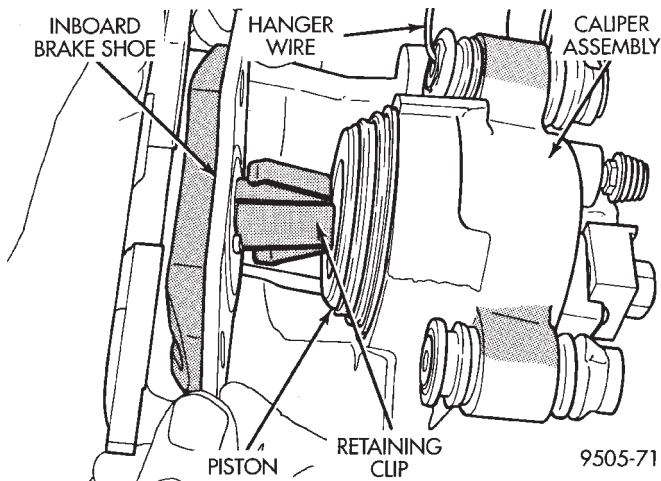

Fig. 52 Removing Inboard Brake Shoe
(9) Pull inboard brake shoe away from piston until retaining clip is free from cavity in piston (Fig. 52).